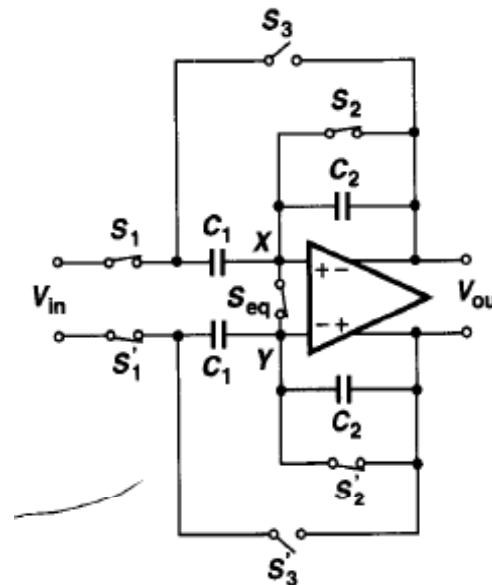

Figure 12.46 Differential realization of noninverting amplifier.
- Differential implementation shown in Figure 12.46.